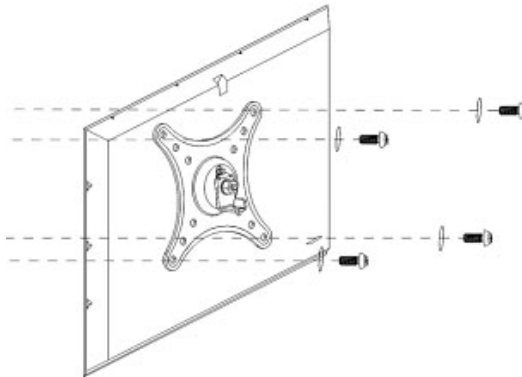

Figure 3
- 2 According to the size of the display's hole, choose the corresponding screw (E/F/G) and washer (C) and insert into the hole as shown (Figure 3) and tighten.